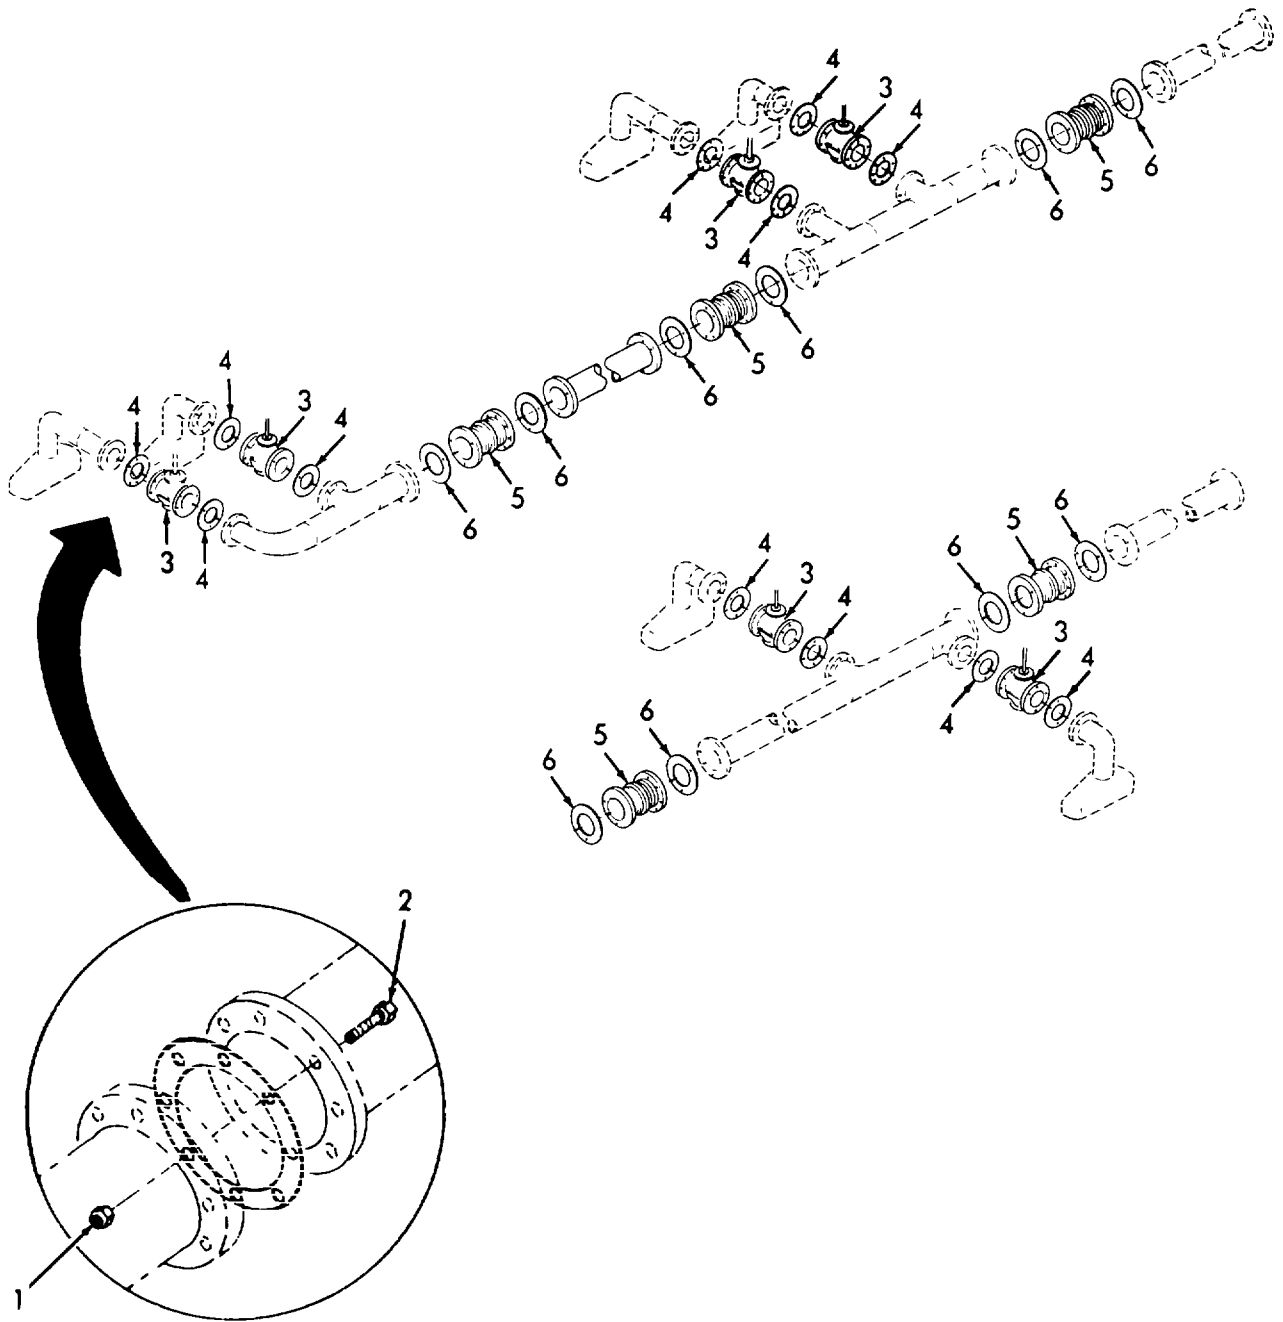

Figure 4-65. Transfer Piping, Removal/Installation.
a. Removal. (Refer to figure 4-65).
(1) Remove nuts (1), bolts (2), six valves (3), and twelve gaskets (4).
(1) Refer to figure 4-65 and install ten gaskets (6) and five expansion joints (5) and secure with bolts (2) and nuts (1).
(2) Install twelve gaskets (4) and six valves (3) and secure with bolts (2) and nuts (1).